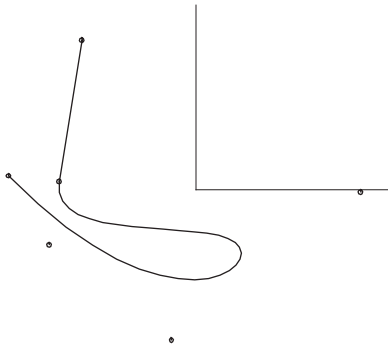

Fig. 8
- 9 As with the previous example, you can move the endpoints of the line and the tangency between the line and the B-spline will be maintained (e.g. Fig. 8). **Try it.**